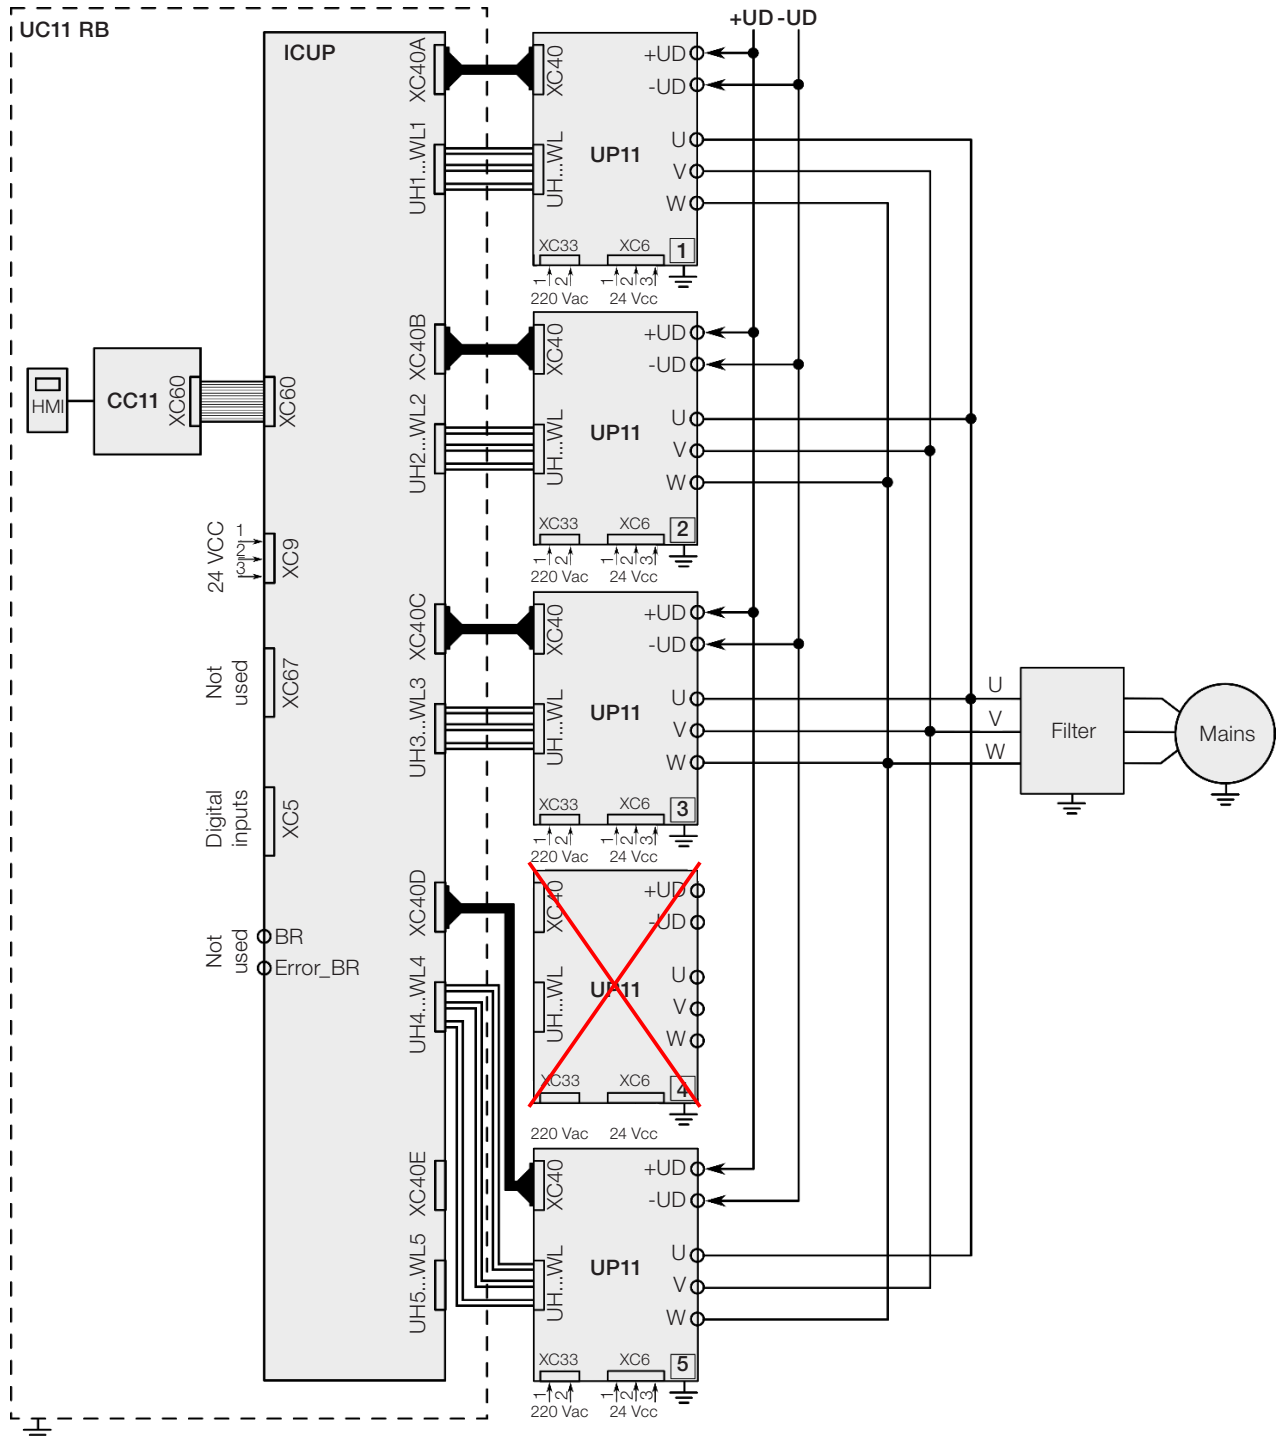

Figure 5.6: Moving the control connections on the ICUP board
4. Move the control connections on the ICUP board, as shown in Figure 5.6 on page 5-8. Connect the control cables of UP11 number 5 to position 4 of the ICUP board. Thus, UP11 5 becomes UP11 4.